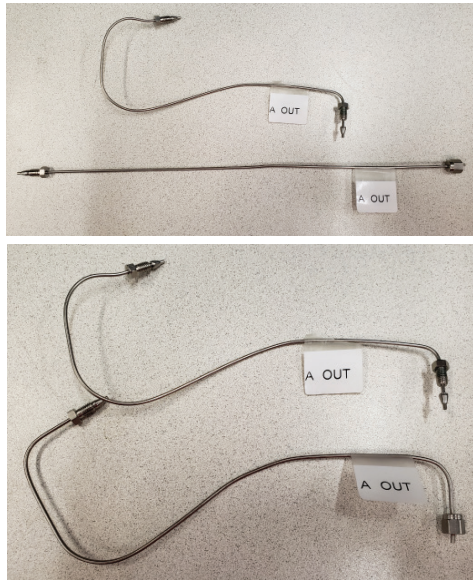

Figure 13: Bulkhead to prime valve tubing
6. Find the pre-swaged 11" stainless steel tubing in the kit with the same label as the tubing that was just pulled from the instrument. Using the original tubing as a guide, bend the new tubing into the same shape. This will make it easier to reinstall into the instrument (Figure 13)